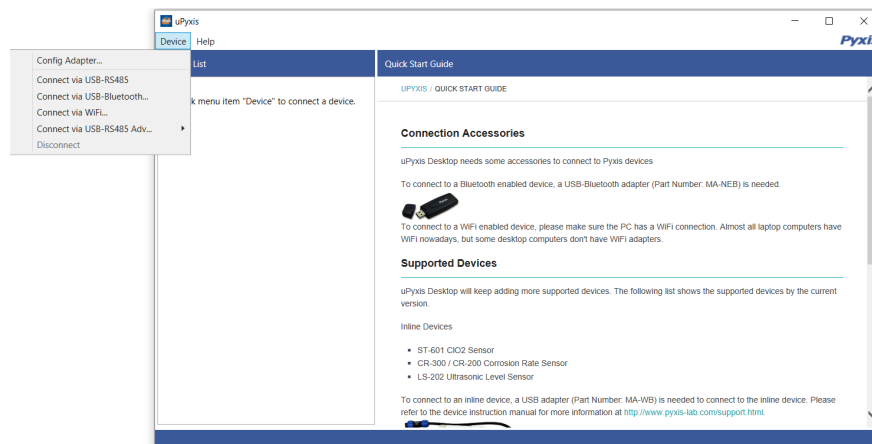

Figure 66.
4. On **uPyxis®** Desktop App, click Device → **Connect via USB-Bluetooth** (Figure 66).
5. If the connection is successful, the SP-600 and its Serial Number (SN) will be displayed in the left pane of the **uPyxis®** window.